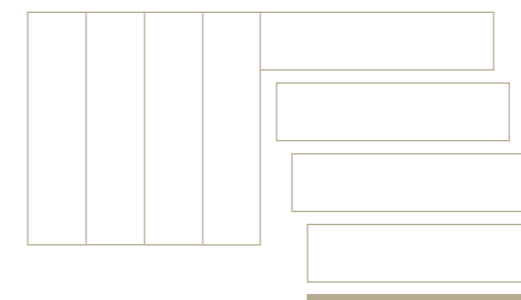

Figure 9: Gluing down adjacent tiles.
4. Glue down the adjacent tiles. See figure 9.